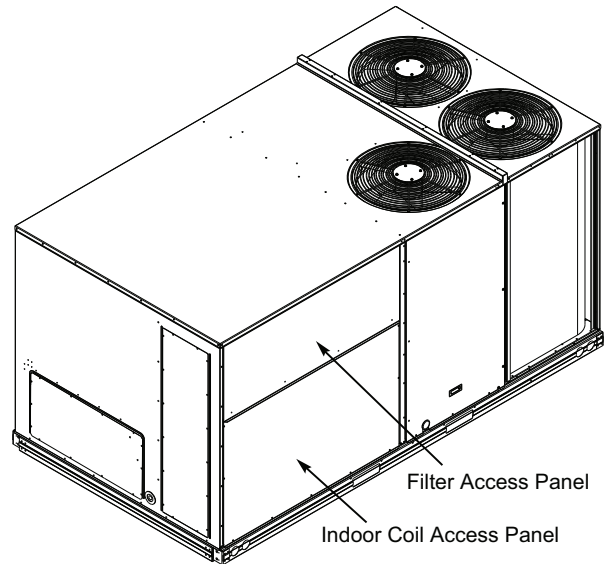

Fig. 9 — Typical Access Panel Locations
2. To gain access to the hood, remove the filter access panel (see Fig. 9).